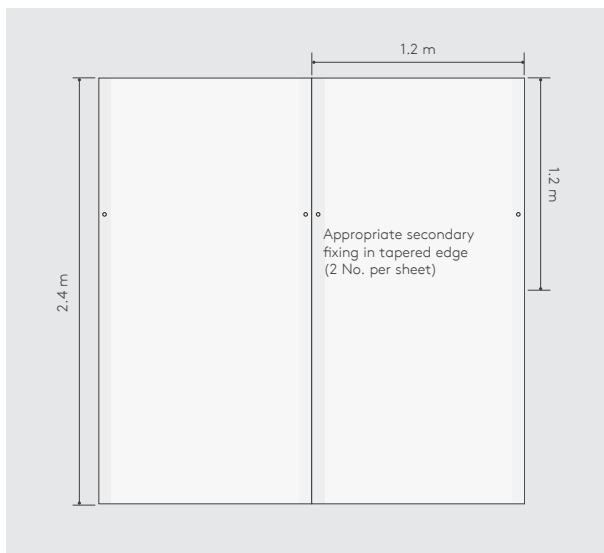

Figure 7 – Appropriate Secondary Fixing Pattern for Acrylic Sealant / PU Foam Adhesive Bonding
Figure 6 - Appropriate Secondary Fixing Pattern for Drywall Adhesive Dab Bonding Using 6 Additional Fixings (See Figure 7 for the Appropriate Secondary Fixing Pattern when using 2 Additional Fixings)
- These are normally applied at a rate of 2 No. per sheet, 15 mm in from the edge of the sheet, after the adhesive has set (see Figure 7).